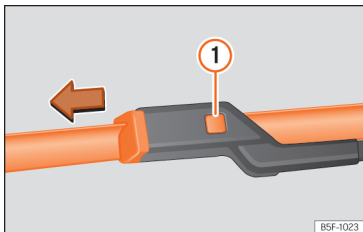

Fig. 153 Changing the windscreen wiper blades
- Press and hold release button >>> **Fig. 153 ①** and pull gently on the wiper blade in the direction of the arrow.